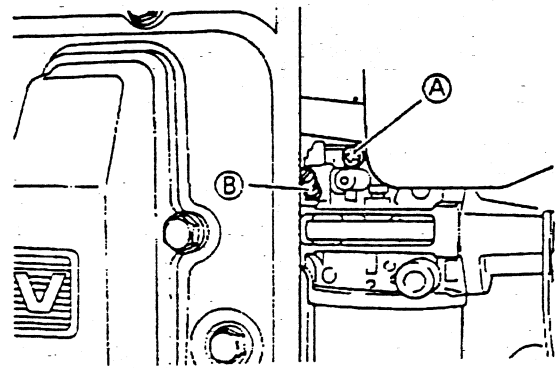

FIGURE 26A
- a. Turn carb. pilot screw (B) in until it just seats and then back out 1-1/2 turns (Fig. 26a).
- d. Adjust slow idle speed to specified rpm (1450-1650 rpm) by moving throttle stop screw(A) (Fig. 26a).
- e. Adjust pilot screw (B) until engine idles at maximum speed and then turn pilot screw out additional 1/4 turn (Fig. 26a).